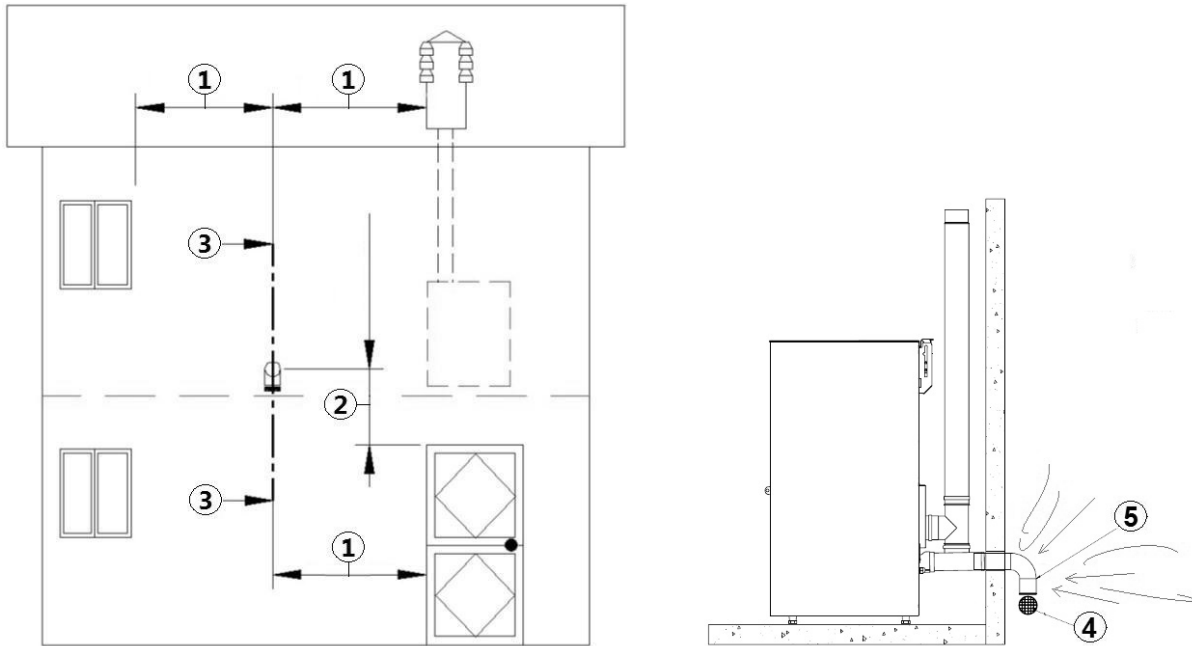

Fig. 11 - Air inlet for sealed-chamber installation
LEGEND	Fig. 11
- On the external wall it is necessary to install a curve at 90° to protect the combustible air inflow from wind effects: turn the curve inlet downwards, see **Fig. 11**.